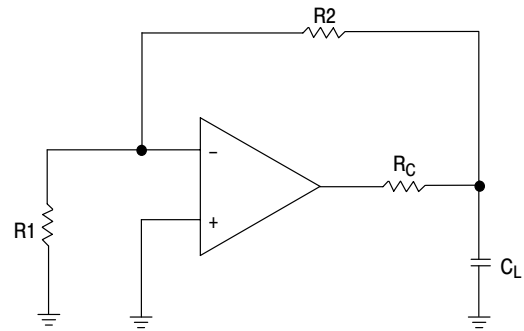

Figure 36. Compensation Circuit for Moderate Capacitive Loads
For moderately high capacitive loads ( $500 \text{ pF} < C_L < 1500 \text{ pF}$ ) the addition of a compensation resistor on the order of  $20 \Omega$  between the output and the feedback loop will help to decrease miller loop oscillation (see Figure 36). For high capacitive loads ( $C_L > 1500 \text{ pF}$ ), a combined compensation scheme should be used (see Figure 37). Both the compensation resistor and the compensation capacitor affect the transient response and can be calculated for optimum performance. The value of  $C_C$  can be calculated using Equation (1). The Equation to calculate  $R_C$  is as follows: